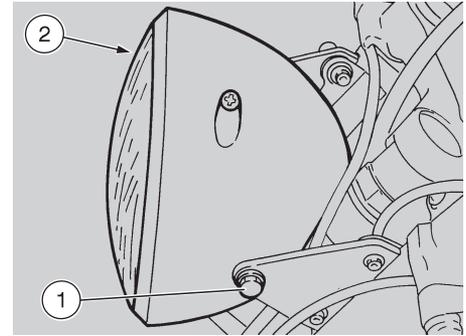

Fig. 54
The headlight beam can be adjusted by acting on the two screws (1-2-Fig. 54) positioned on the headlight sides.
- ◆ Unscrew and extract the screw (2-Fig. 54) on the right side of the headlight.